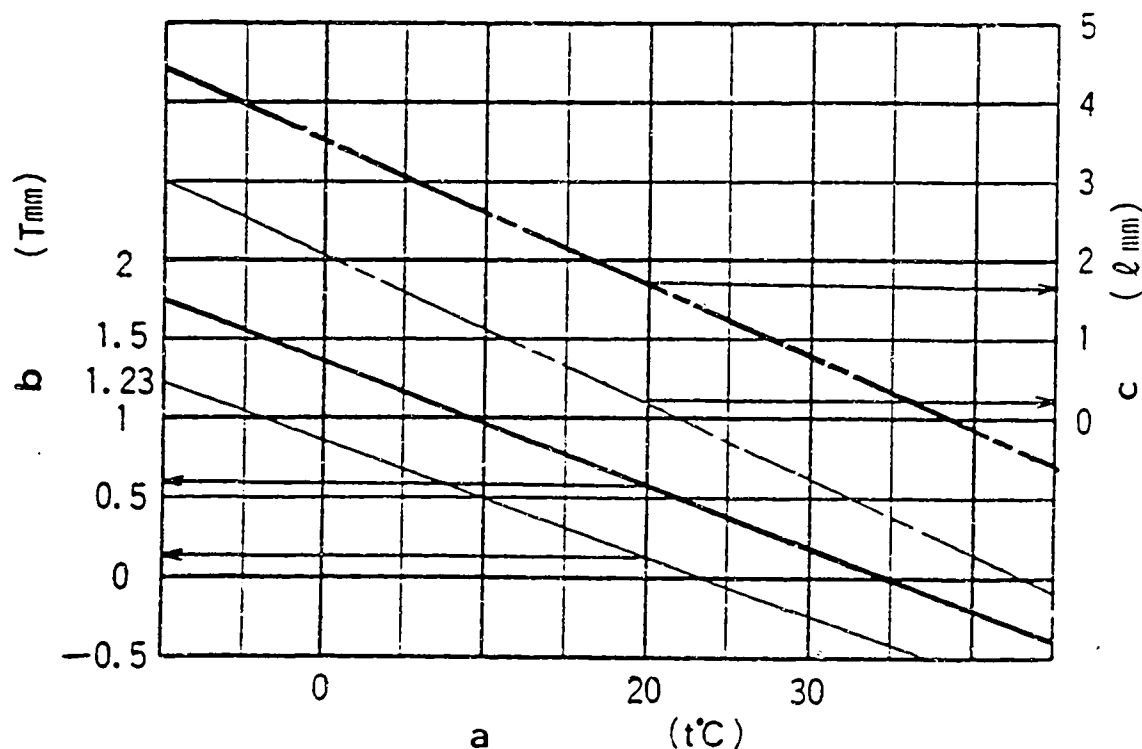

Fig. 28 (Continued)
1) Calculate the timer stroke from Fig. 28 according to the atmospheric temperature at the time of adjustment.
2) Adjust using the timer stroke adjusting screw so that the timer stroke is as calculated in Fig. 28 (diagramm).
Formula for calculating timer stroke: (Fig. 28)
- 1) Calculate the block gauge dimension  $l \pm 0.05$  mm from (Fig. 28) according to the atmospheric temperature at the time of adjustment.
- 2) Insert the block gauge (thickness gauge) selected in (Fig. 28) between the bracket and the idling stopper bolt.